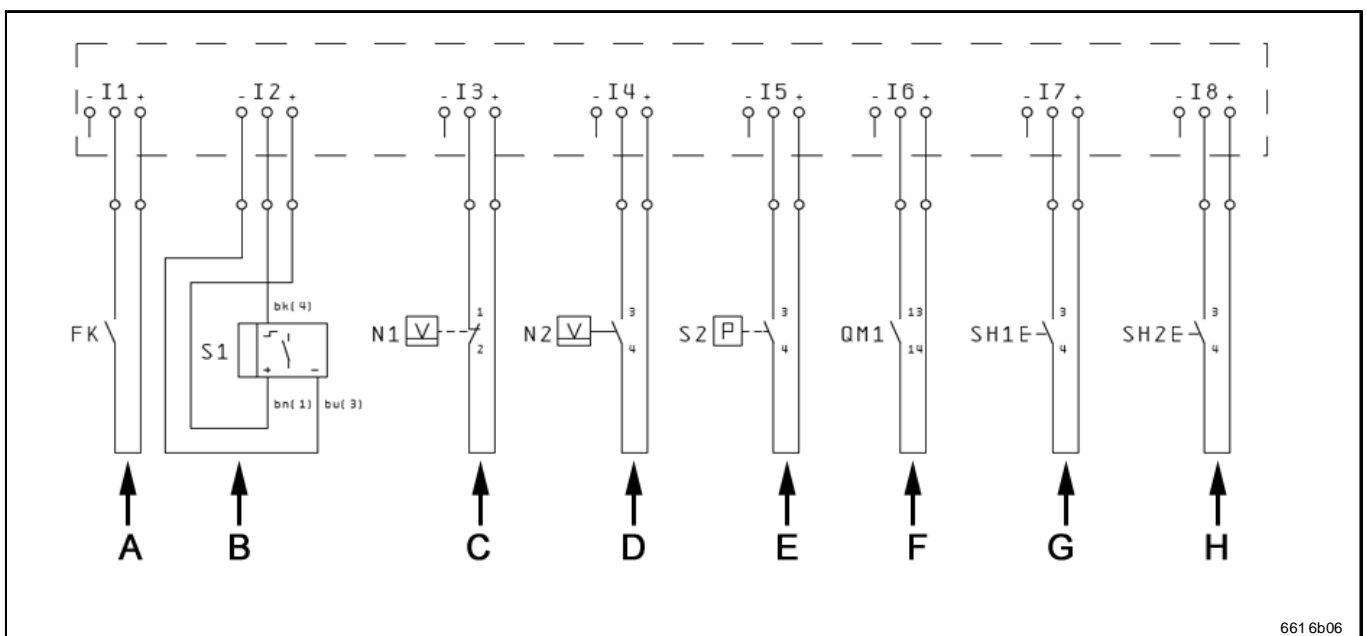

Fig. 37 Signal input connection
1) or, if applicable, externally via switch H (see Fig. 37)